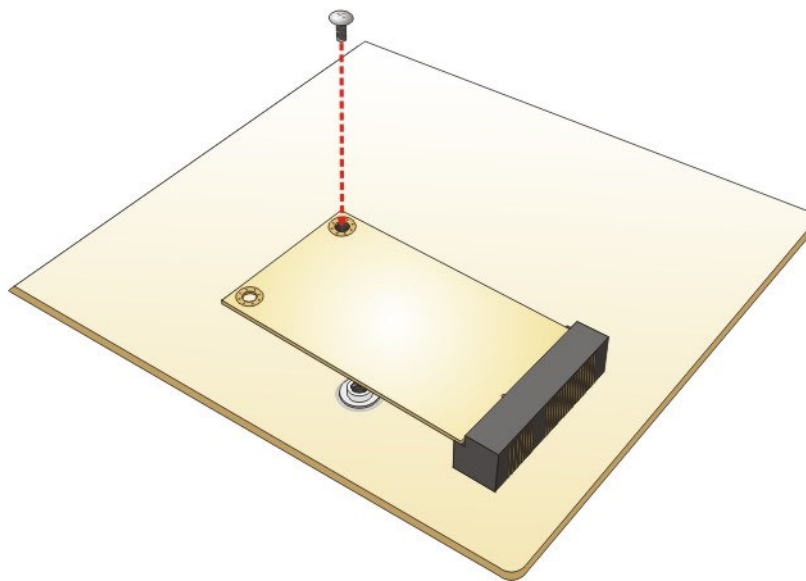

Figure 4-10: Securing the Full-size PCIe Mini Card
- Step 4:** Secure the full-size PCIe Mini card. Secure the full-size PCIe Mini card with the retention screw previously removed (Figure 4-10).